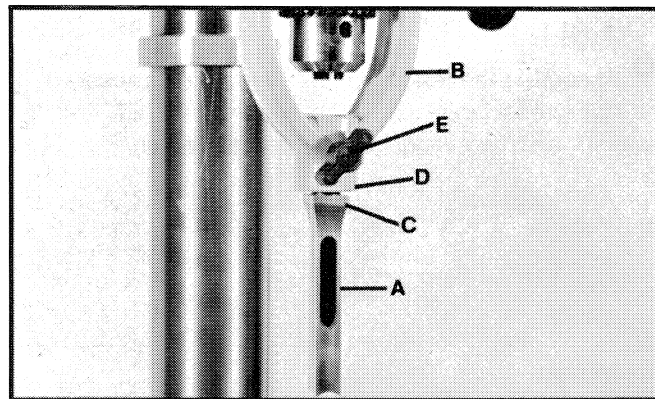

Fig. 15
2. Insert the chisel (A) into the chisel holder (B) as shown in Fig. 15. **NOTE: Position the chisel (A) into the chisel holder so that the upper face (C) of the chisel is about 1/32" below the bottom (D) of the holder and tighten lockscrew (E).**